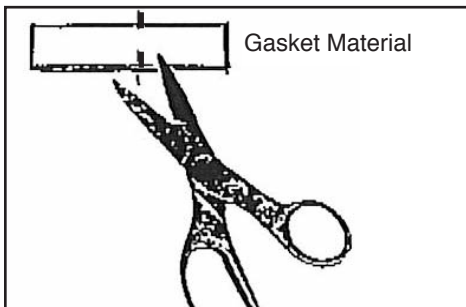

Figure 2
3. Cut each Gasket into 2 pieces. You will need 1 piece for each **half** of the Clamp. **(Scissor) Figure 2**
4. Before removing paper backing from Gasket, fit Gasket to Clamp to verify correct length. Cut Gasket material to exact length of Clamp half. **(Scissor) Figure 2 and 3**